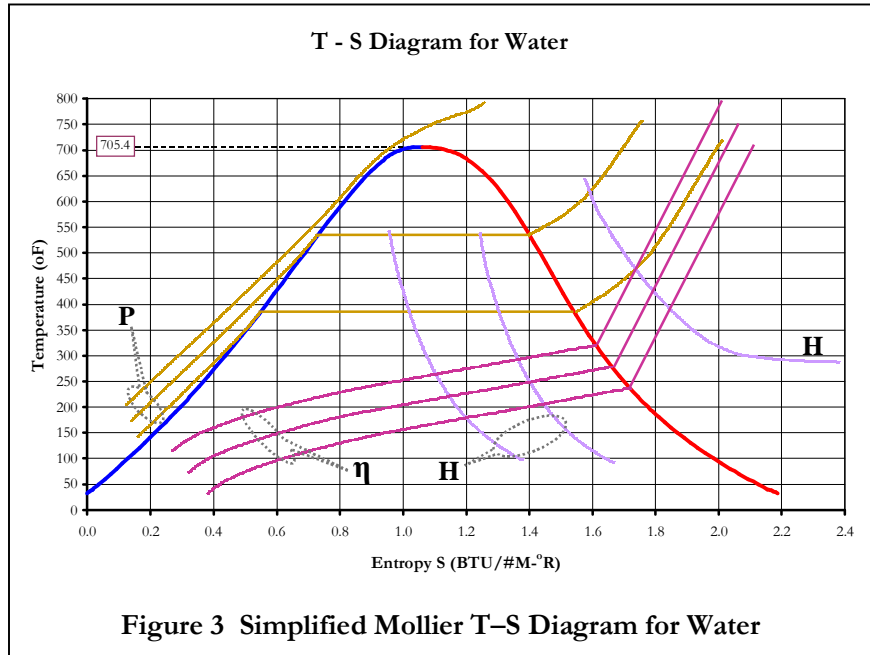

Figure 3 Simplified Mollier T-S Diagram for Water
The remaining Thermodynamic properties not illustrated in Figure 2 or yet discussed, Pressure, Enthalpy and Specific Volume are illustrated in Figure 3. Lines of constant Pressure (P) are shown in light brown, while Enthalpy (H) is shown in violet, and Specific Volume (η) in plum.
Beginning with Pressure, the reader should note that where water is *in the liquid state*⁸, lines of constant Pressure, *isobars*, are very close together, and increase from right to left. In fact, comparing Figure 3 to Figure 1, one readily sees in Figure 1 that there is only one line of constant Pressure to the left of the Saturated Water